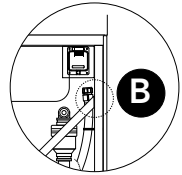
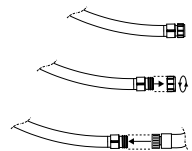

Figure 13.3f
Figure 13.3g
2. Locate drain hose line attached to the 2 x 4 wood slat. Figure 13.3f. Hold drain hose above water line. Unscrew drain valve cap to expose the underlying male garden hose fitting, Figure 13.3g.
3. Attach female garden hose end to drain fitting and route opposite end of garden hose away from hot tub, Figure 13.3g. **Note:** Make sure to direct water away from hot tub.